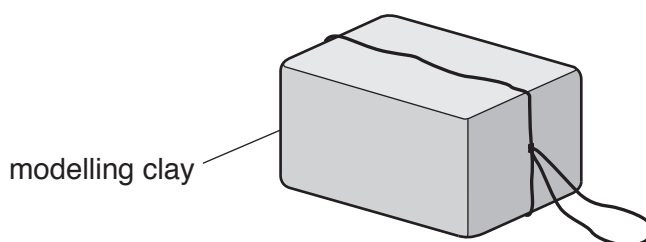

Fig. 1.1
1. The modelling clay must be non-porous and able to keep its shape when immersed in water. PlasticineTM is suitable. It must be moulded by hand into a rectangular solid as shown in Fig. 1.1. The three dimensions (length, width and height) must be different.